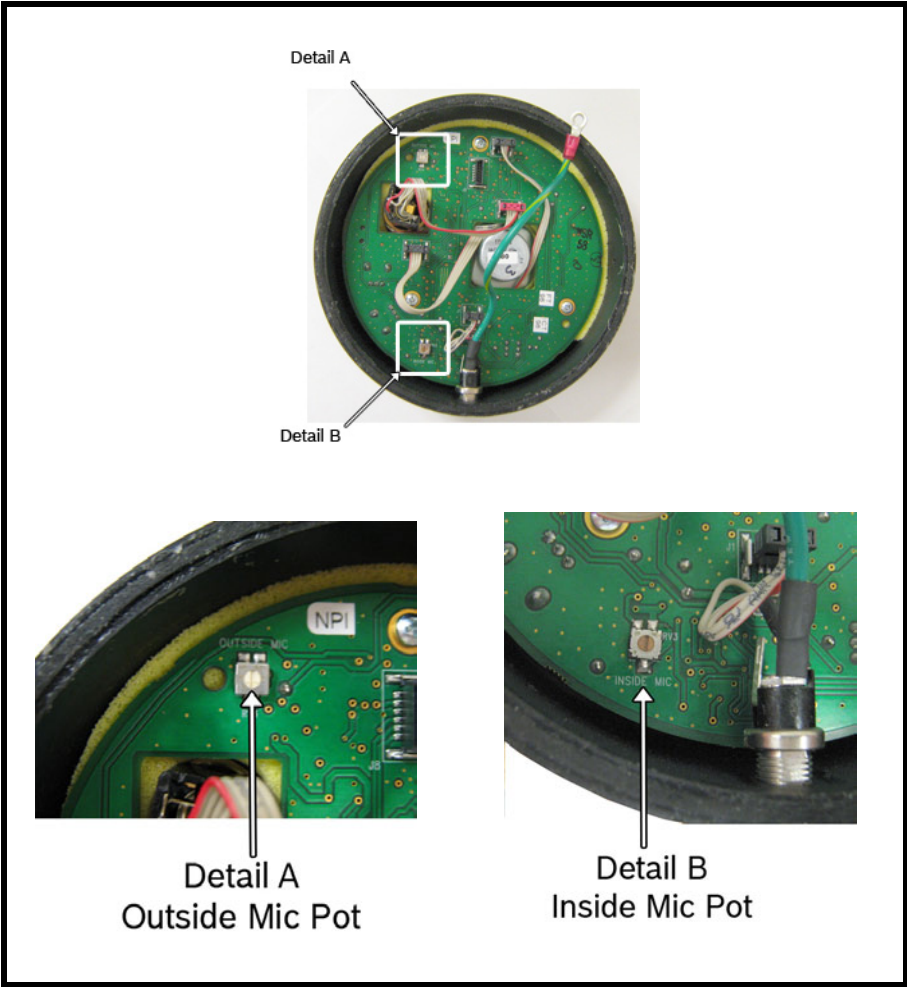

FIGURE 7. ICW-6 Inside and Outside Mic Pot Location
3. Using Figure 7 , locate the **mic pot** you want to adjust.